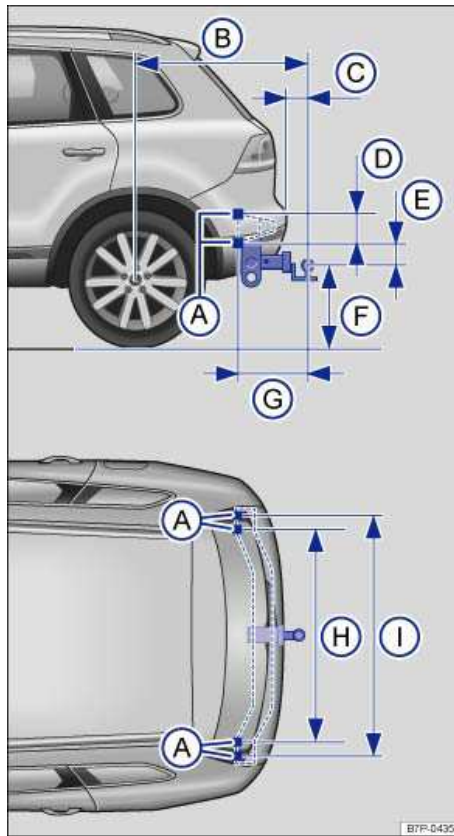

Fig. 109 Dimensions and attachment points for retrofitting a trailer hitch.
⇒ **fig. 109 (F)** be less than the specified minimum. This minimum height must be present even when the vehicle is fully loaded and subject to the maximum tongue weight.
Distance dimensions ⇒ **fig. 109:**